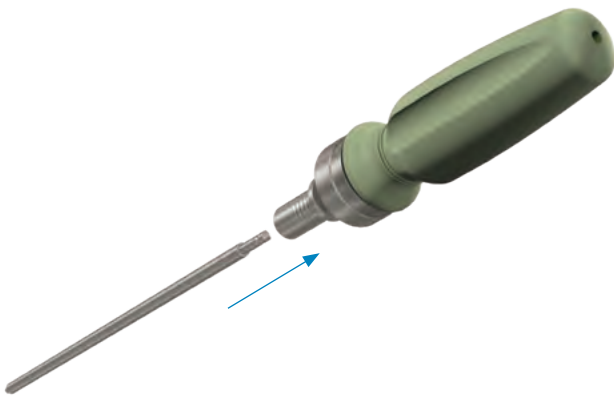

Figure 28
- Attach the self-retaining screwdriver to the ratcheting driver handle (Figure 28).